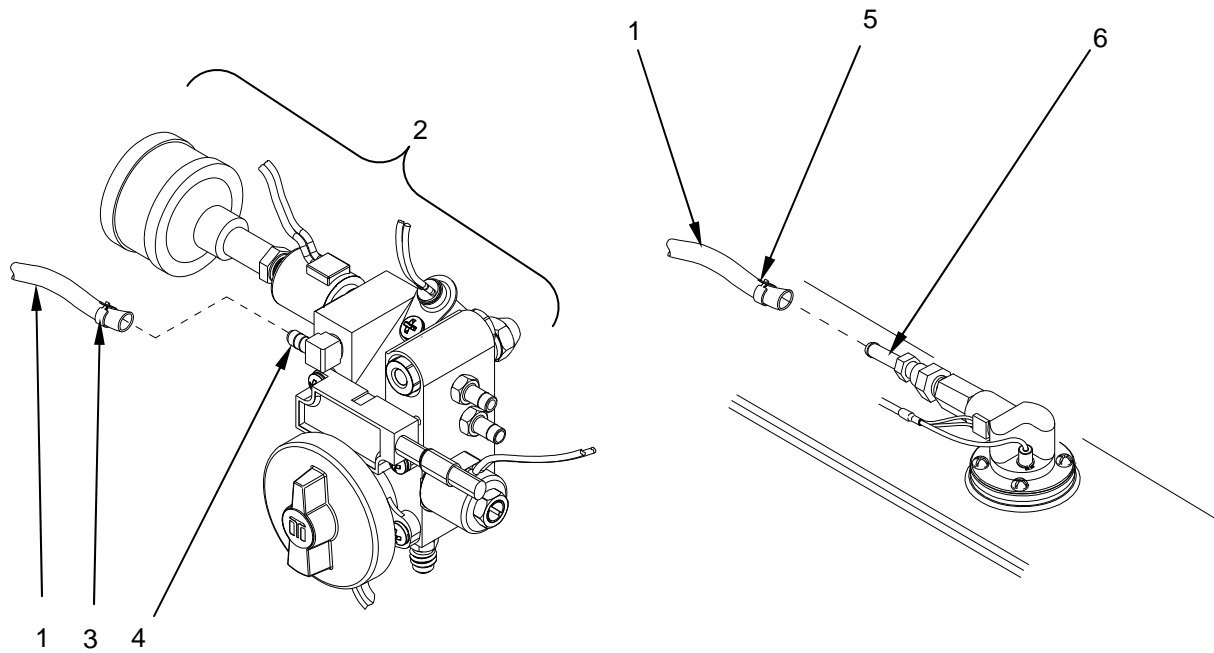

Figure 14. Replace the Air Line to Vent Valve.
3. To replace the fuel shut-off solenoid valve (Figure 13, Item 3), disconnect the solenoid valve wiring (Figure 14, Item 4) by separating the connector at the end of the harness.
1. To replace the air line (Figure 14, Item 1), temporarily remove the fuel delivery block (Figure 14, Item 2) from the burner tube mounting studs IAW procedures given in the section of this WP entitled "Remove/Install the Fuel Delivery Block."
2. Squeeze the tabs on hose clamp (Figure 14, Item 3) with a pair of pliers and slide the clamp off the elbow fitting (Figure 14, Item 4) on the fuel delivery block and onto the neoprene line (Figure 14, Item 1). If it is necessary to replace the fitting, remove with a wrench and install a new fitting.
3. Squeeze the tabs on hose clamp (Figure 14, Item 5) with a pair of pliers and slide the clamp off the elbow fitting (Figure 14, Item 4) on the fuel delivery block and onto the air line (Figure 14, Item 1).
4. After removing the clamp, grasp the end of the air line (Figure 14, Item 1) connected to the elbow fitting (Figure 14, Item 4) on the fuel delivery block and pull, while wiggling from side to side, until the line is free.
5. Remove the end of the air line (Figure 14, Item 1) connected to the vent valve fitting (Figure 14, Item 6) in a similar manner. If the vent valve fitting needs replacement, unscrew and install a new vent valve fitting.
6. Using the damaged air line (Figure 14, Item 1) as a size guide, cut a new piece of fuel line of the same length from the bulk supply of neoprene hose.
7. Remove the clamps (Figure 14, Items 3 and 5) from the damaged air line and install on the new line, sliding each about 1-1/2 to 2 inches from the end.
8. Install the serviceable line, pushing one end fully onto the elbow fitting (Figure 14, Item 4) on the fuel delivery block and the other end onto the vent valve fitting (Figure 14, Item 6).
9. Squeeze the tabs on the clamps (Figure 14, Items 3 and 5) with a pair of pliers and slide one clamp up on the elbow fitting (Figure 14, Item 4) on the fuel delivery block and the other end onto the vent assembly fitting (Figure 14, Item 6). Be sure to position the tabs so that they can be easily accessed should service be required at a later date.
10. Install the fuel delivery block (Figure 14, Item 2) onto the burner tube mounting studs IAW procedures given in this WP entitled "Remove/Install the Fuel Delivery Block."